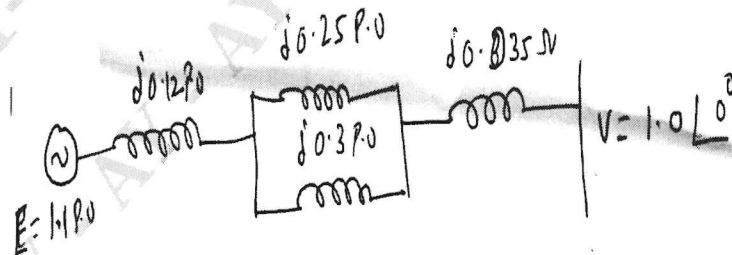

Fig Q10(b)
- b. Determine the critical fault clearing angle for the network shown in Fig Q10(b) when a three phase fault occurs at B and the breakers at A and B operate simultaneously. The generator is delivering 1.0 P.u power before the fault takes place. Assume inertia constant $H = 4.0$.